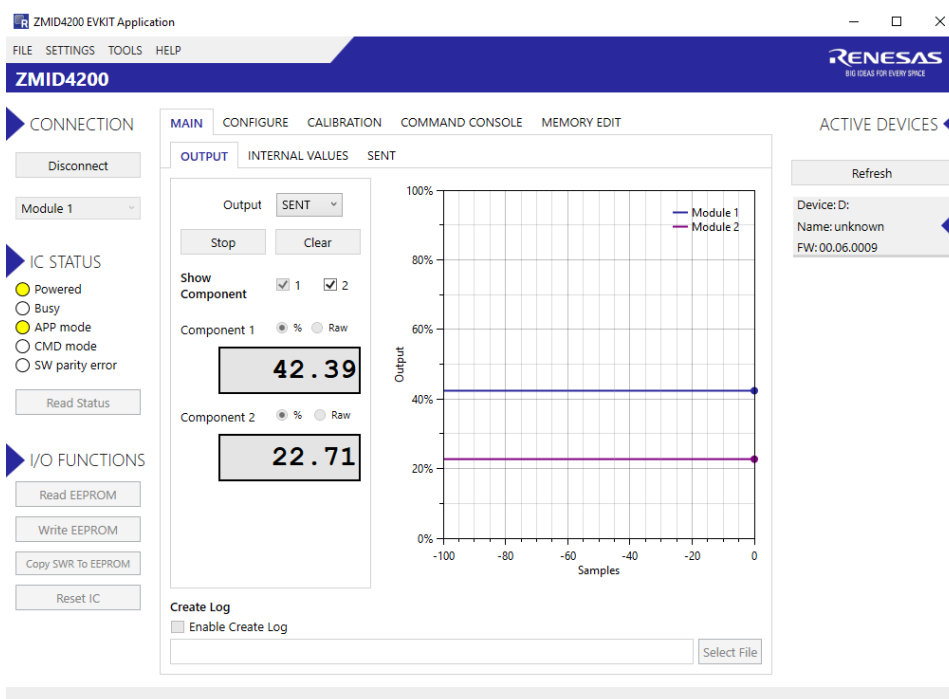

Figure 10. Display When Connected to 2 Devices – ZMID4200 Example
8. Two sensor boards can also be connected to the ZMID-COMBOARD at the same time; see Figure 10 for an example. Data are displayed according to the selection made through the drop-down menu on the top left side (Module 1 or Module 2). When connecting to two modules at the same time, both ZMID4200 ICs on the modules must have the same output option (e.g., 2 x Analog outputs).